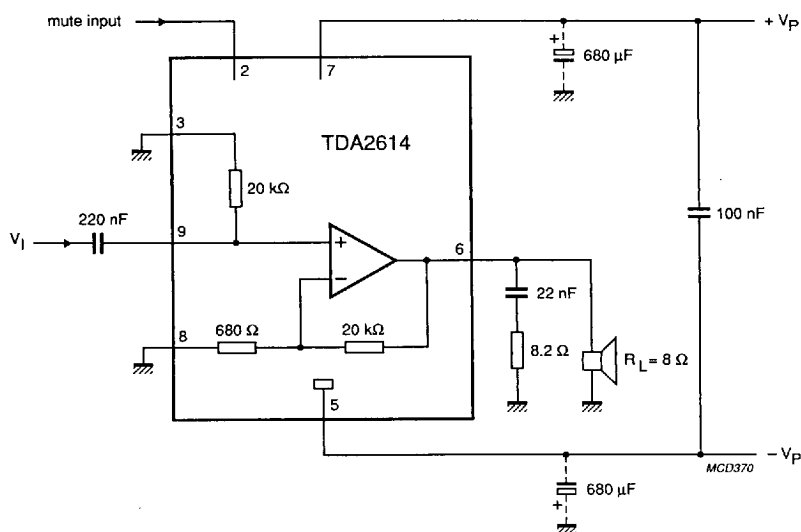

Fig.4 Test and application circuit with symmetrical power supply.
- $\pm V_P = 12$  V;  $R_L = 8 \Omega$ ;  $T_{amb} = 25$  °C;  $f = 1$  kHz; symmetrical power supply  $I_{MUTE} < 30 \mu$ A. See Fig.4